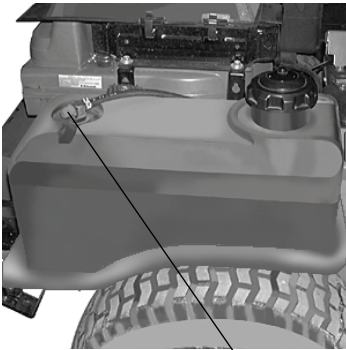

Figure. 7 Fuel Shutoff Valve
7. **Fuel Shutoff Valve:** (See Figure 7.) Located on top of the fuel tank(s). When turned in a clockwise direction until it stops, it will shut off the flow of fuel to the engine. When turned in a counterclockwise direction it will open and allow fuel to flow to the engine. Close this valve if you are not going to run the mower for a period of 30 minutes or more to prevent flooding the engine.